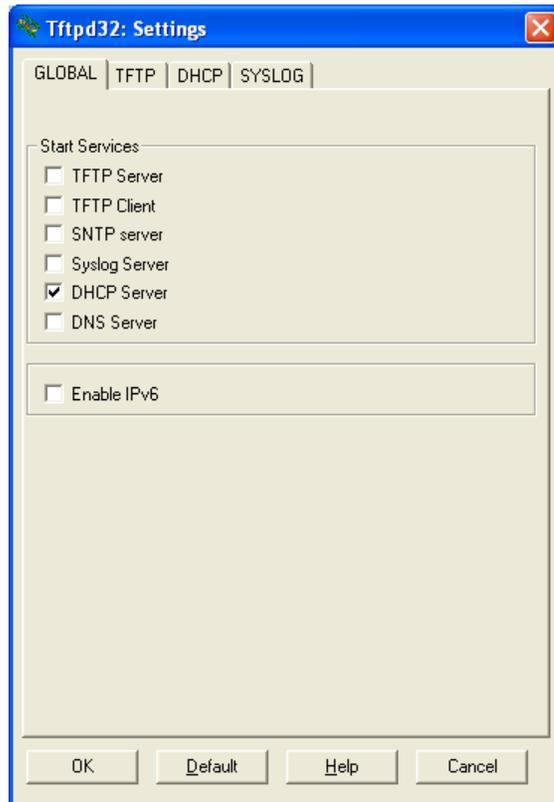

Figure A-2. Global Tab
4. Start Tftpd32 and click the *Settings* button. On the *Global* tab, enable only the **DHCP Server**. See Figure A-2.